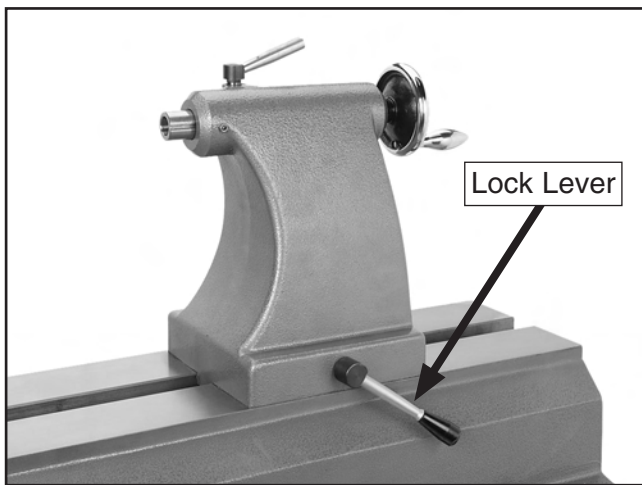

Figure 12. Tailstock lock lever.
1. Loosen the lock lever and move the tailstock to the desired position along the bed (**Figure 12**).